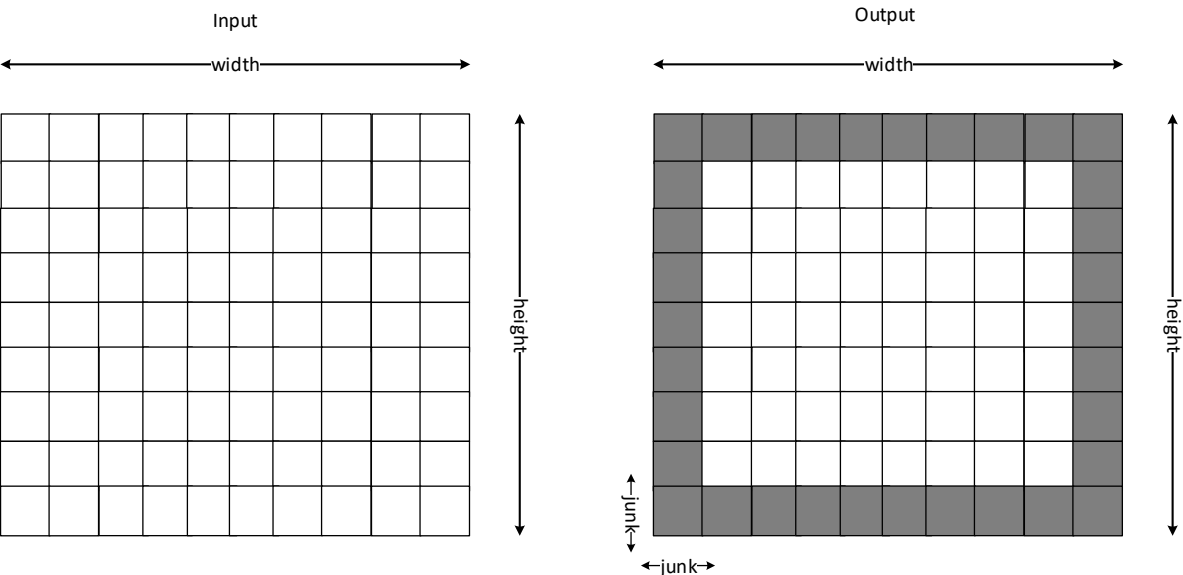

Figure 4, Input/output format (for 1 algorithm)
- [Ft 5] The output image size is equal to the input image size, the result will have 1-pixel width junk on the border for each **PE** it passes through, as shown in Figure 4, Input/output format (for 1 algorithm)
The processed, output image, has the same size as the input but its borders are junk data (Figure 4, Input/output format (for 1 algorithm)3). The width of the border containing invalid values depends on the number of algorithms that is applied to the input. The size of the junk on the borders can varies between 1 and 5.